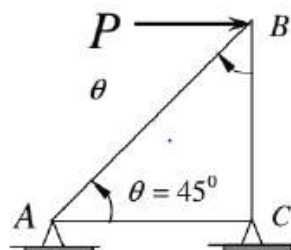

Figure 4 (a) [8]
- 4 a) A three member truss is loaded as shown in Figure 4 (a), assume (AE/L) is same for all the members. Analyze the truss using finite element method and determine the Joint displacements.